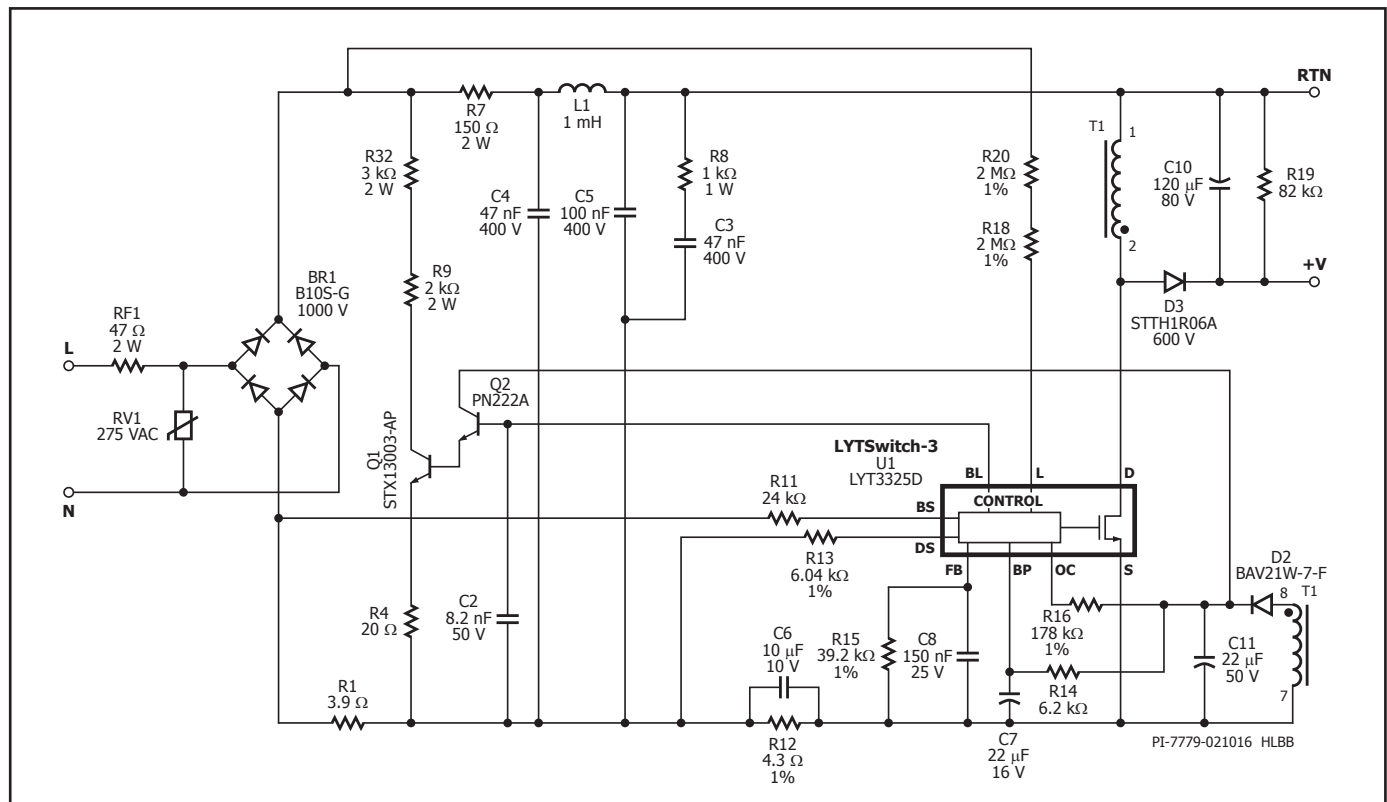

Figure 7. DER-524 8 W, 72 V, 115 mA Non-Isolated Dimmable A19 LED Bulb Driver using LYT3325D.
The circuit shown in Figure 7 is configured as a buck-boost power supply utilizing the LYT3325D from the LYTSwitch-3 family of ICs. This type of LED driver configuration is common for dimmable bulb applications where high dimmer compatibility, accurate regulation, high efficiency, high power factor and low ATHD are required along with low component count for high reliability. The output can drive an LED load from 68 V to 76 V with a constant output current of 115 mA \pm 3% across an input range of 195 VAC to 264 VAC and can operate in maximum ambient temperature of 100 °C with good margin below the thermal foldback protection point. It has an efficiency of greater than 86%, very low ATHD% (less than 20%) and high power factor of greater than 0.9 measured across the input range.
AC input power is rectified by bridge BR1. A 1000 V voltage rating is recommended (the maximum clamp voltage for a typical 275 V varistor is 720 V). The rectified DC is filtered by the input capacitors C4 and C5. Too much capacitance degrades power factor and ATHD, so the values of the input capacitors were adjusted to the minimum values necessary to meet EMI with a suitable margin. Inductor L1, C4 and C5 form a π (pi) filter, which attenuates conducted differential and common mode EMI currents. Optional resistor R10 across L1 damps the Q of the filter inductor to improve filtering without reducing low frequency attenuation. Fuse RF1 in Figure 7 provides protection against catastrophic failures such as short-circuit at the input. For cost reduction, this can be replaced by a fusible resistor (typically a flame proof wire-wound type) which would need to be rated to withstand the instantaneous dissipation induced when charging the input capacitance when first connected to the input line.
Selection of fuse RF1 in Figure 7 type and rating is dependent on input surge requirements. Typical minimum requirement for bulb application is 500 V differential surges. This design meets a 1 kV surge specification, so a 47 Ω fusible resistor in Figure 7 was used. A fast-blow fuse with high ampere energy (I^2t) rating could also be used.
The bias winding voltage is proportional to the output voltage (controlled by the turns-ratio between the bias supply and output-main winding). This allows the output voltage to be monitored without the need for output-side feedback components. Resistor R16 in Figure 7 converts the bias voltage into a current which is fed into the OUTPUT COMPENSATION (OC) pin of U1. The OUTPUT COMPENSATION pin current is also used to detect output overvoltage which is set to 30% above the nominal output voltage. Once the current exceeds the I_{OV} threshold the IC will trigger a latch, which disables switching which prevents the output from rising further. An AC recycle is needed to reset this protection mode once triggered.